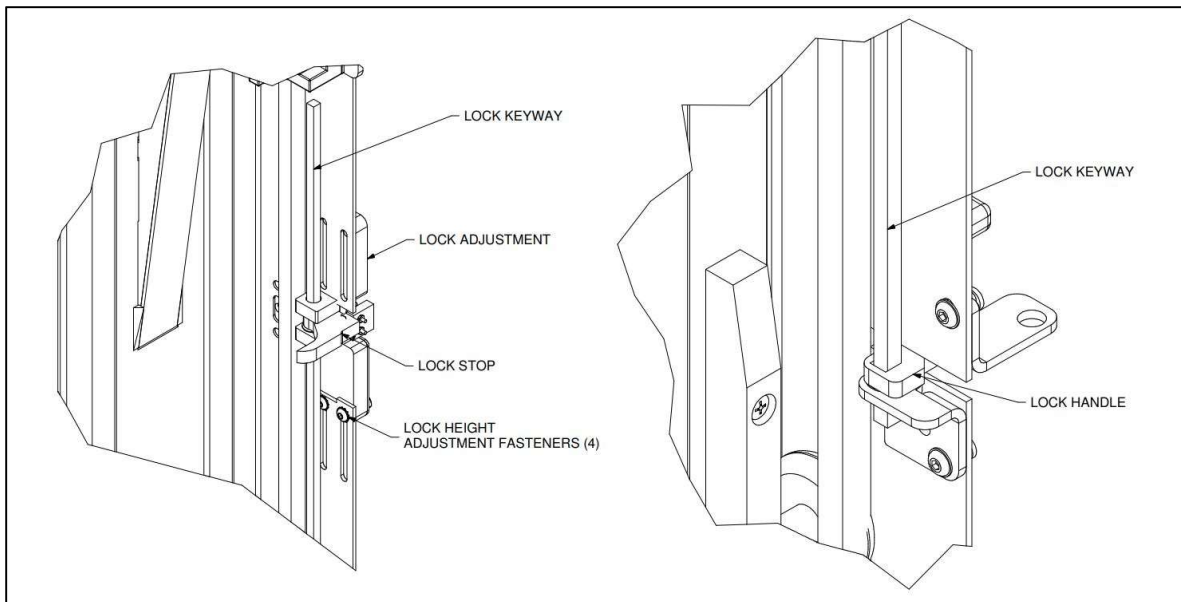
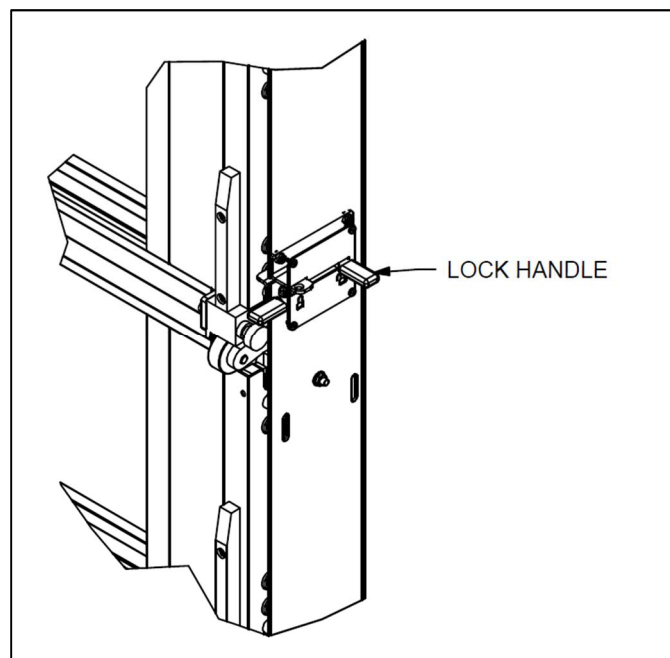

Figure 29 – LOCKING SETUP (Right Hand Guide – Unlocked State)
Figure 30 - LOCK HANDLE (Right Hand Guide – Unlocked State)
77. Insert the rod through the lock handle, lock stop, and bushings. Ensure the handle and lock stop are both in the unlocked state when attaching and secure the setscrew on the handle. Refer to **Figure 29** and **Figure 30** for orientation.